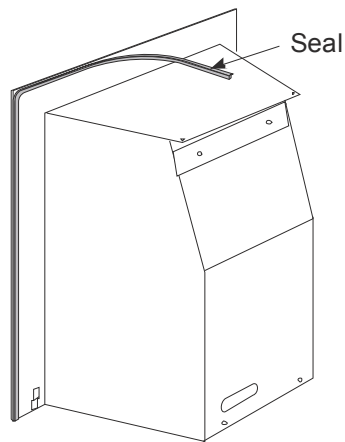

Figure 63
3. Apply the foam sealing strip all round the rear edge of the firebox flange by removing the protective backing paper (see **Figure 63**). **Do not** fit this seal if fitting into a Freedom Surround.